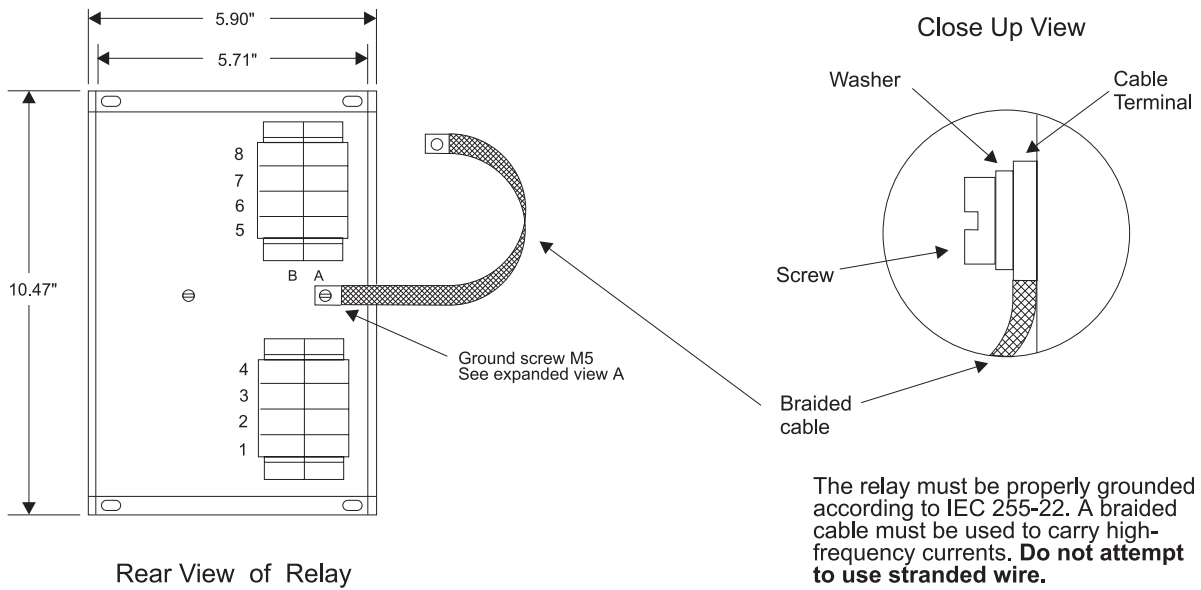

Figure 17.5 Connecting the Ground Strap
4. Connect a braided ground strap to either of the grounding screws on the back of the case (see Figure 17.5).